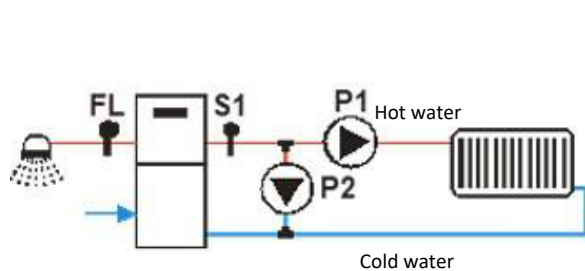

Fig. 3
**When parameter *P26 = 1*, the configuration shown in Figures 3 and 4 is selected**